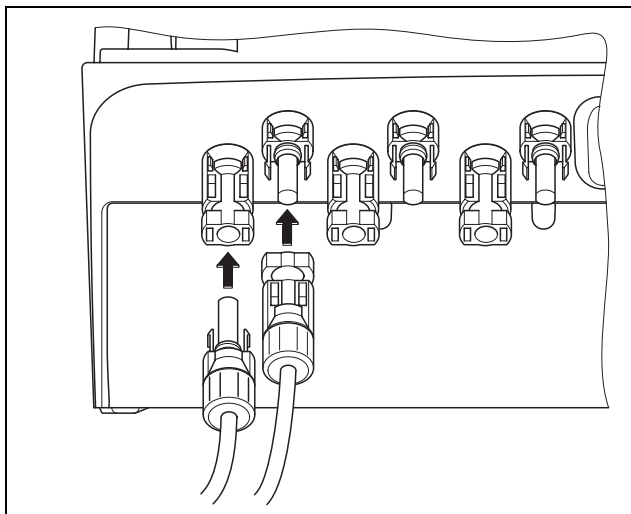

Fig. 17: Connecting the PV string
- Insert the PV string plugs until they engage in the corresponding counterparts on the inverter (figure 17).